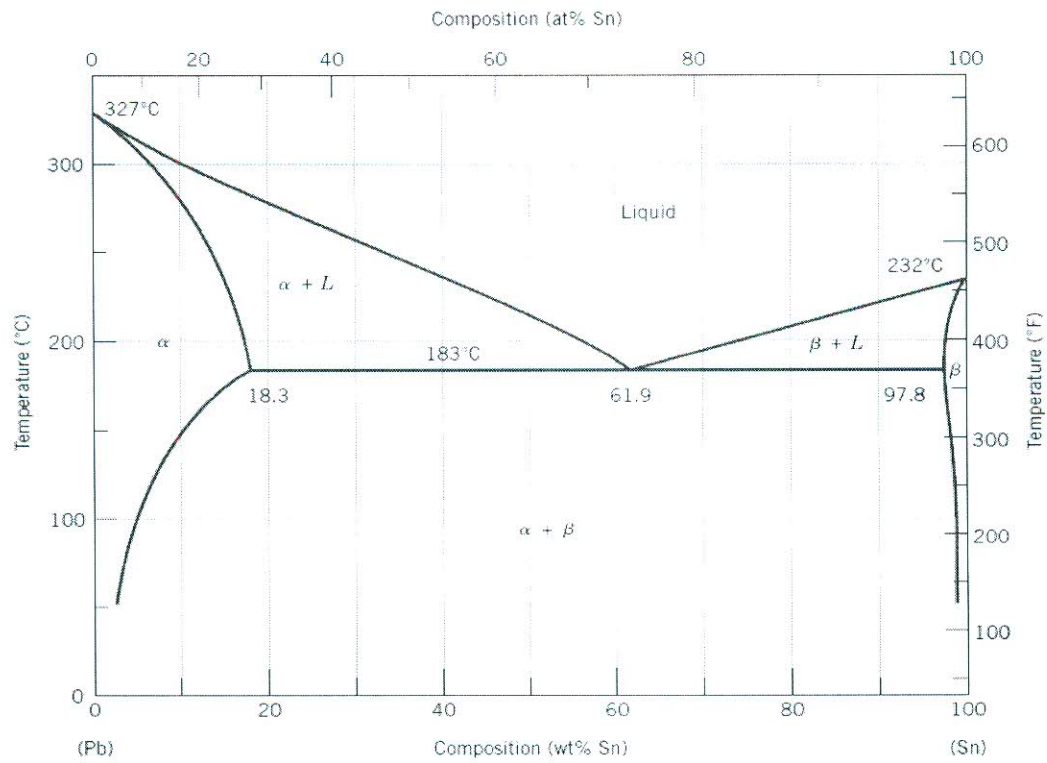

Figure 2 - The lead-tin phase diagram
- [b] Figure 2 is a phase diagram for lead tin system.